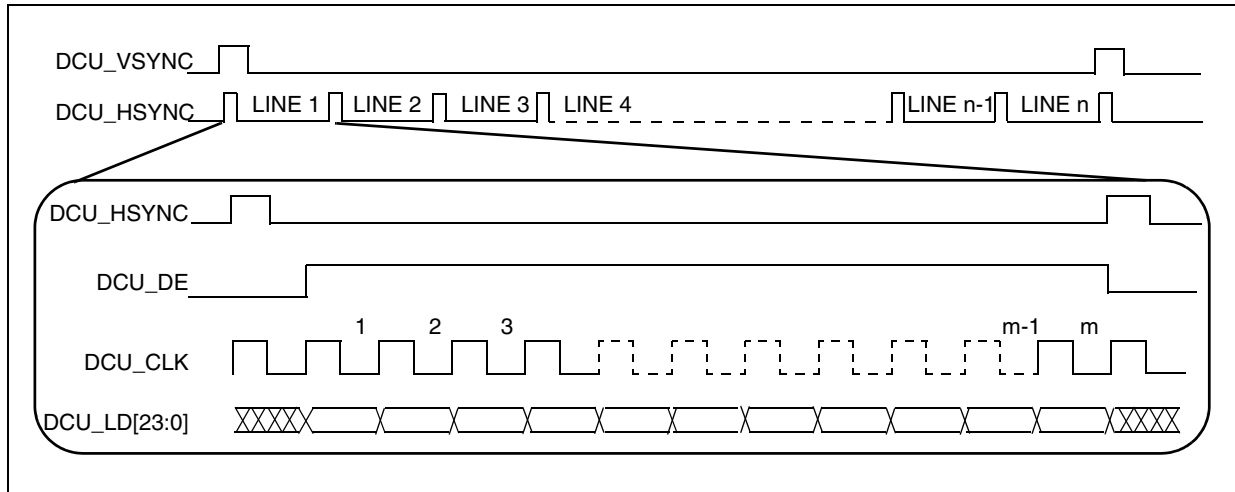

Figure 33. TFT LCD interface timing overview1
Figure 33 depicts the LCD interface timing for a generic active matrix color TFT panel. In this figure signals are shown with positive polarity. The sequence of events for active matrix interface timing is:
1. In Figure 33, the “DCU\_LD[23:0]” signal is an aggregation of the DCU’s RGB signals—DCU\_R[0:7], DCU\_G[0:7] and DCU\_B[0:7].